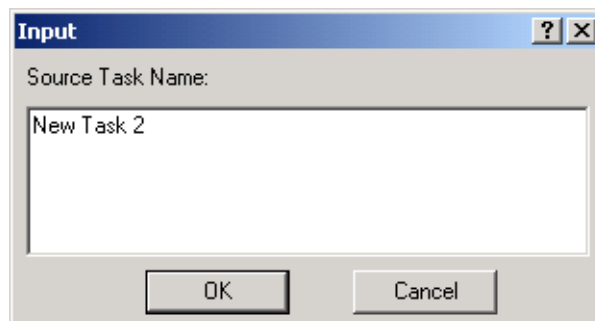

Figure 30-9. Source Task Name dialog with new task name entered.
- ② The Input dialog appears. Type the name of task you want to create in the **Source Task Name** field. Compare your work to Figure 30-9, below. Click **OK**.